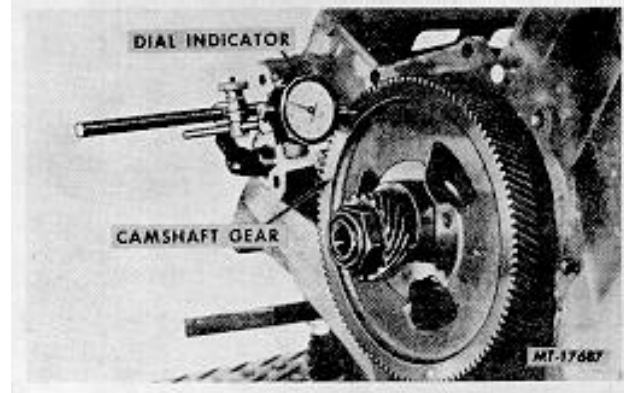

Fig. 51 Checking Camshaft End Play
52. With the use of a dial indicator (Fig. 51), check the camshaft end play. See SPECIFICATIONS. If end play exceeds the limits, replace the camshaft thrust flange.